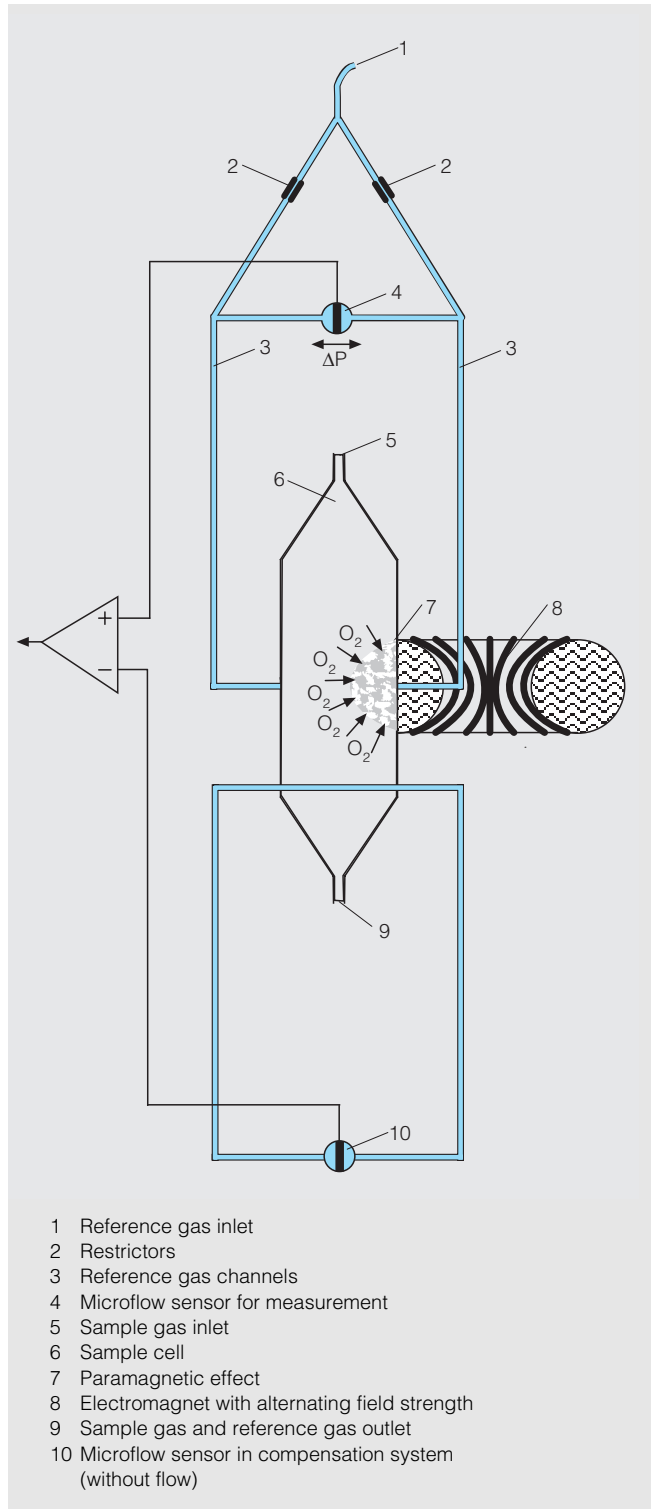

Fig. 2 OXYMAT 6, mode of operation
In the case of **OXYMAT 6**, one gas (1, Fig. 2) is a reference gas (N_2 , O_2 or air), the other is the sample gas (5). The reference gas is introduced into the sample cell (6) through two channels (3). One of these reference gas streams meets the sample gas within the area of a magnetic field (7). Because the two channels are connected, the pressure, which is proportional to the oxygen concentration, causes a cross flow. This flow is converted into an electric signal by a microflow sensor (4).